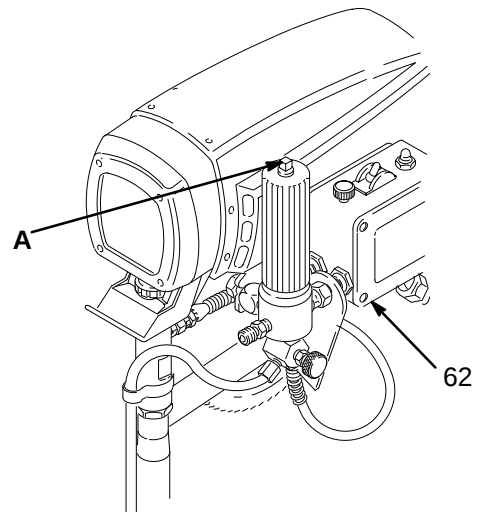

Fig. 3
2. See the above list of tools and equipment needed. Remove the plug (A) from the top of the fluid filter and install the fluid-filled pressure gauge. See Fig 3. Connect the gun to the **new** test hose and connect the hose to the sprayer outlet.
3. Remove the pressure control cover (62).